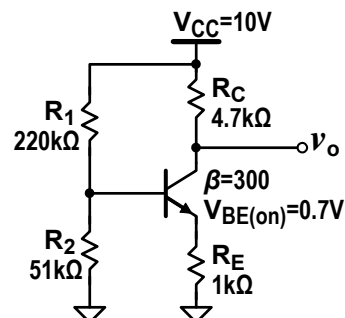

Figure 2. Voltage divider biasing circuit
2. For the circuit given in Figure 2, determine I_B , I_C , V_B , V_E , and V_{CE} .
2.a) Build the circuit in Figure 2. Measure the values of I_B , I_C , V_B , V_{BE} , and V_{CE} .